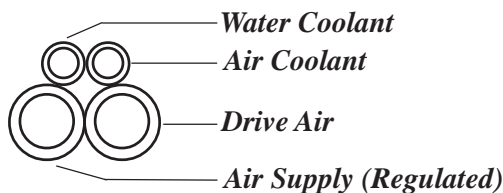

Figure 7: Free End of Foot Control Tubing (as it faces you)
2. Foot Control: (Refer to Figures 7 and 8)